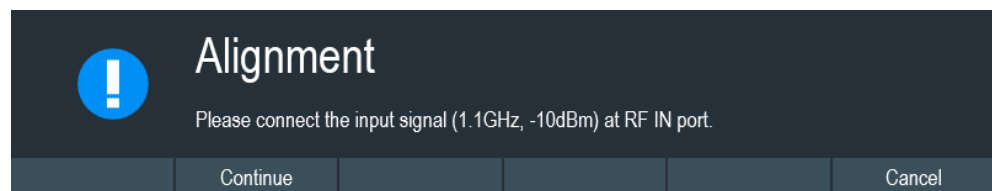

Figure 3-7: Input signal for frequency clock alignment
3. Select "Yes" to overwrite existing default alignment data and proceed to perform alignment. The R&S Spectrum Rider displays the "Alignment" dialog. Depending on the selected alignment item, different input signal is required. See Figure 3-7 and Figure 3-8.